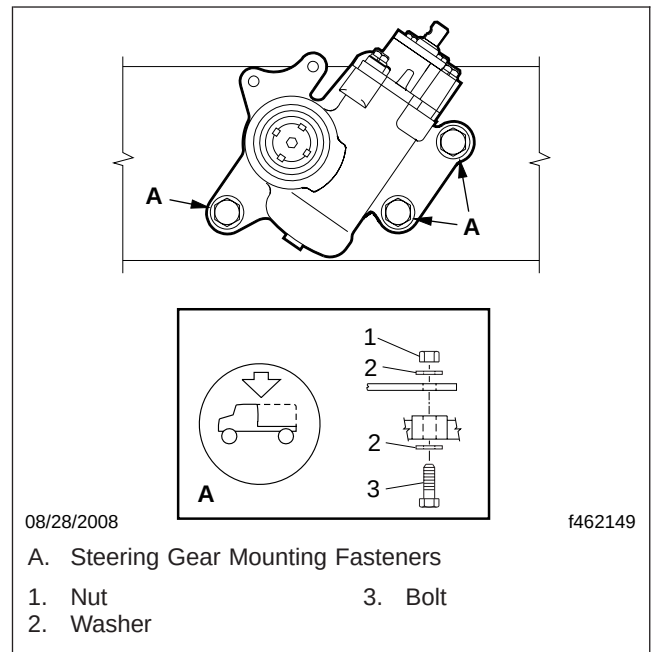

Fig. 1, Steering Gear Installation
1. Align the holes in the steering gear housing with the holes in the frame rail. See Fig. 1. Place a washer over each bolt and install the three bolts. Install a washer and nut on the end of each bolt and tighten the nuts 388 lbf-ft (526 N·m).